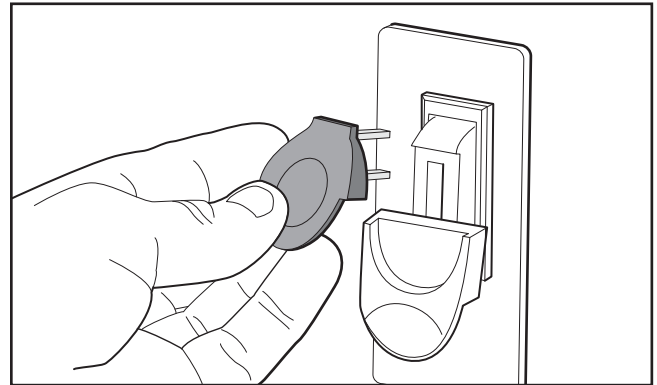

Figure 14. Removing switch key from paddle switch.
5. Remove switch disabling key, as shown in **Figure 14**.